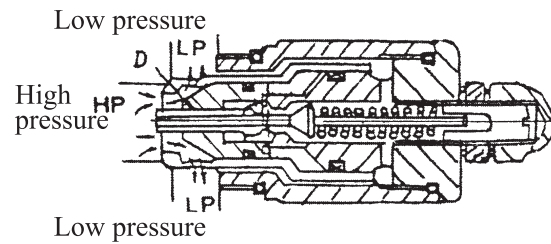

Fig. 7-10
(4) As compared to the pressure at the cylinder port “HP” side, the inner pressure becomes unbalanced, causing the relief valve poppet “D” to open and thereby sending the oil directly to the low-pressure passage “LP”. (See Fig. 7-10)